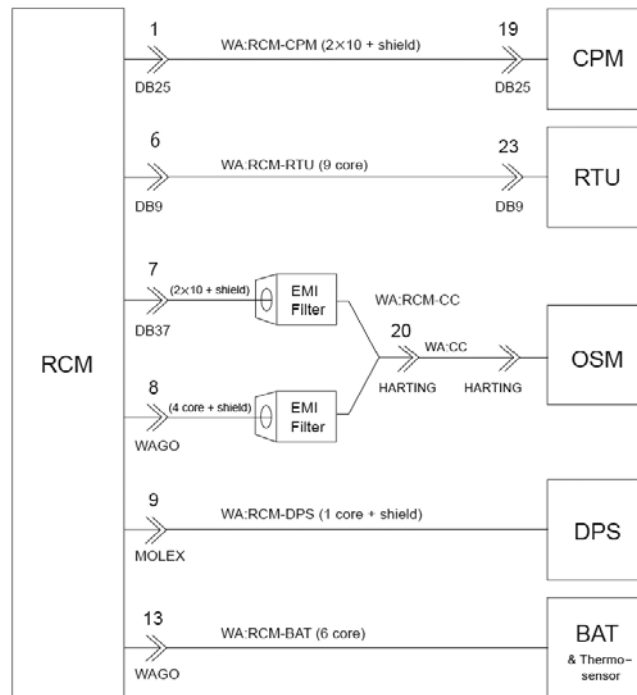

Figure 57
- 3) Connect the wiring to the RCM according to the wiring assembly diagram (Figure 57);